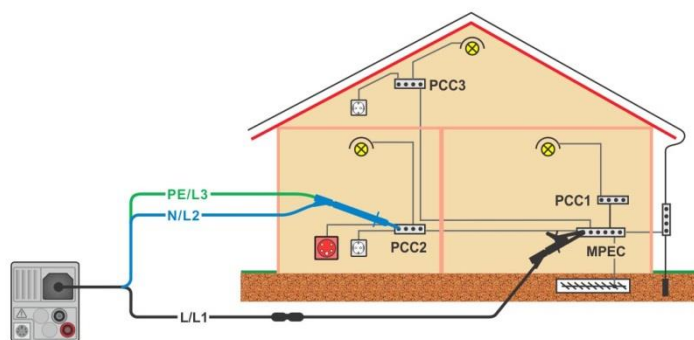

Figure 7.19: Connection of 3-wire test lead plus optional Extension lead
- › Connect test leads, see **Figure 7.19**.